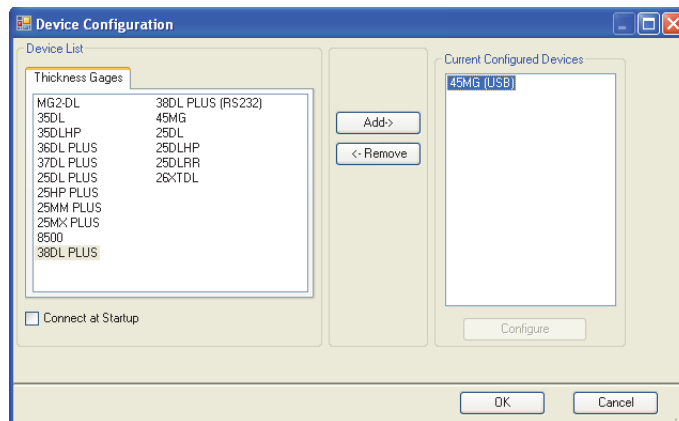

Figure 11-4 The Device Configuration dialog box
- b) In the **Device Configuration** dialog box (see Figure 11-4 on page 201):
- (1) In the **Device List**, select 45MG, and then click **Add**.